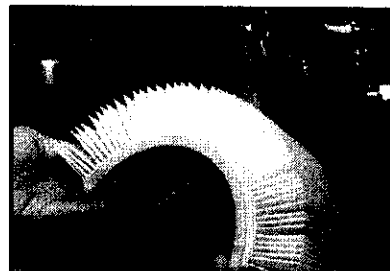

Fig. 9
6. If the filter is still dirty, clean it under running water (see Fig. 9). If this does not adequately clean the filter, replace it.